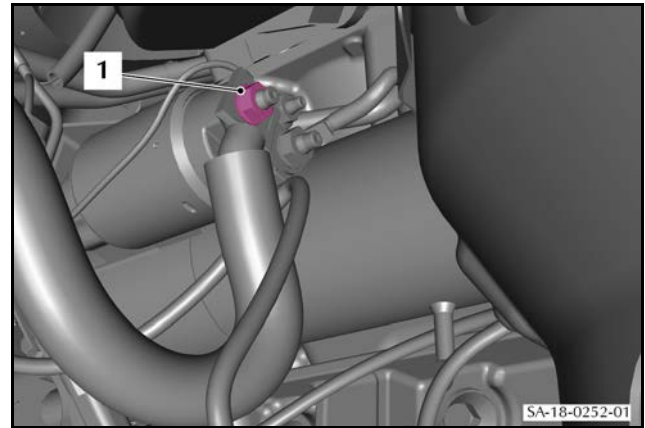

Figure 1
5. Remove the nut (1) that attaches the battery supply cable to the starter solenoid (solenoid) (refer to Figure 1).